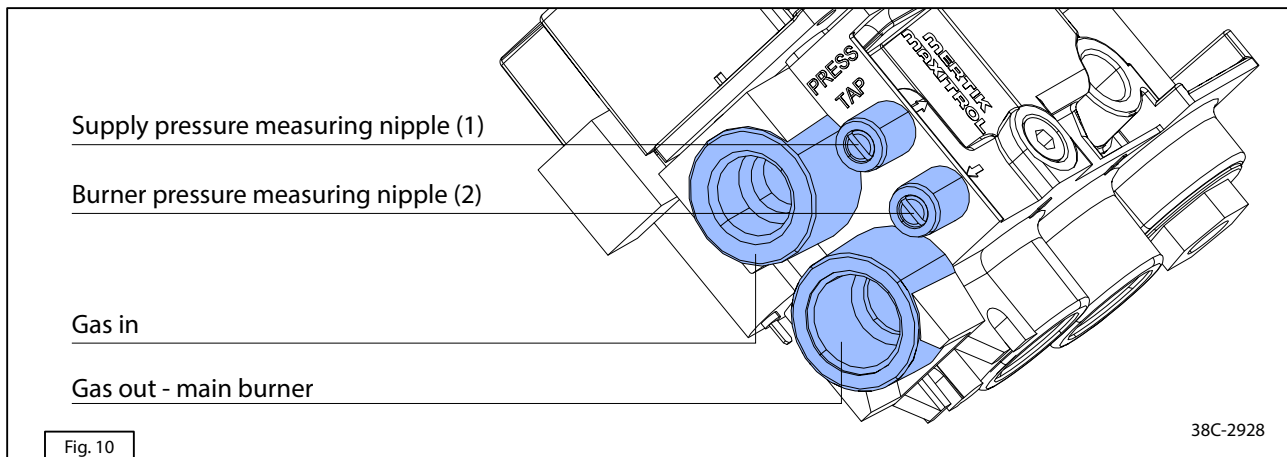

Fig. 10
- ✔ Open the valve of the burner pressure measuring nipple a few turns with a flat-head screwdriver and connect the pressure gauge (see Fig. 10 (2)).
- ✔ Disconnect the pressure gauge and close the valve of the burner pressure measuring nipple (2) (see Fig. 10).